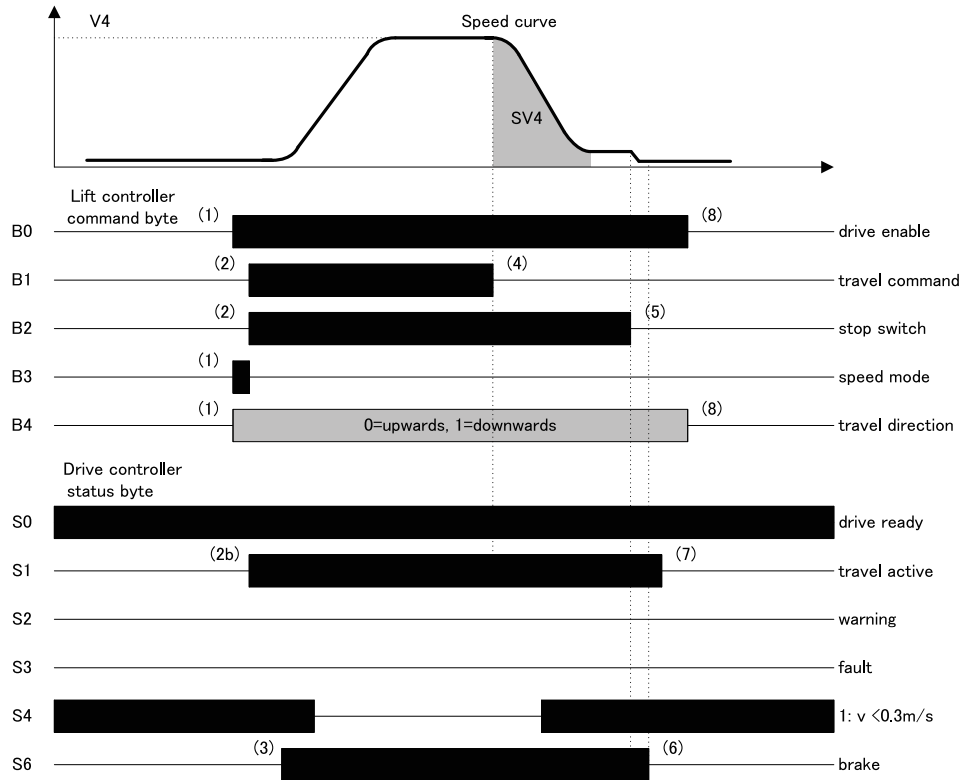

Figure 6.9 V4 Long Travel (DCP3)
The same procedure as in Figure 6.9 with fast speed applies whereas in step (1), the appropriate intermediate speed must be transmitted. The deceleration distance is dependent on the selected speed.